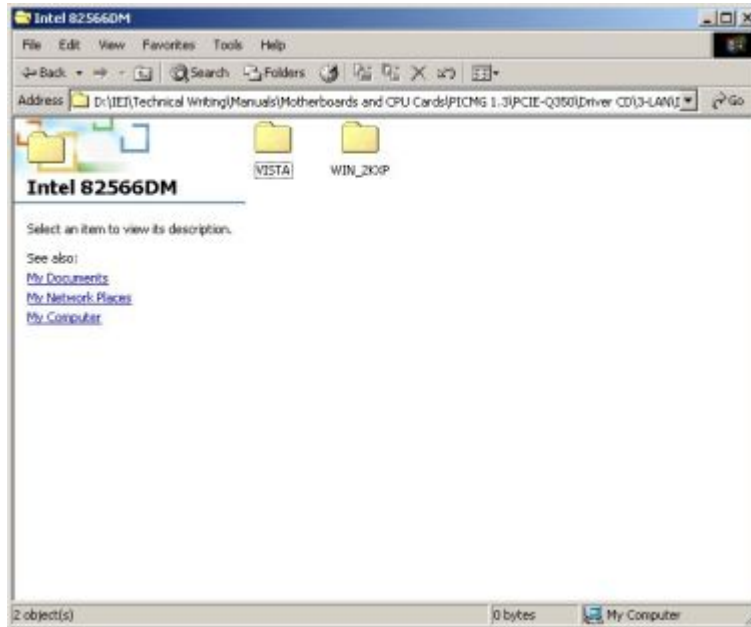

Figure 7-30: Intel® 82573 Operating System
Step 4: The window in **Figure 7-30** appears.
Step 5: Select the Operating System in **Figure 7-30**.